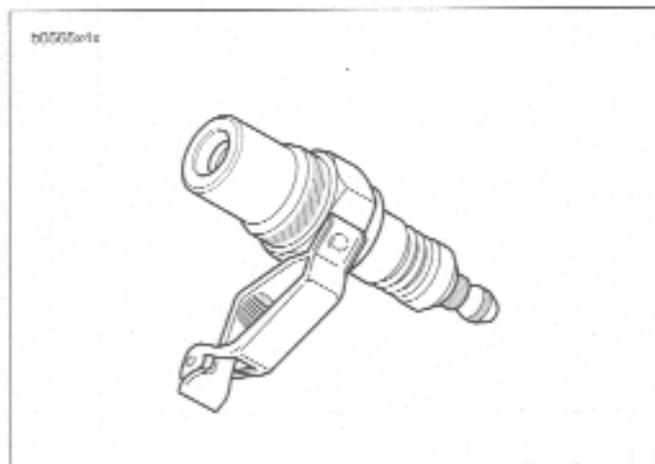

Figure 4-32. Spark Tester (Part No. HD-26792)
1. See Figure 4-32. A SPARK TESTER (Part No. HD-26792) must be used to verify adequate secondary voltage (25,000 volts) at the spark plug.